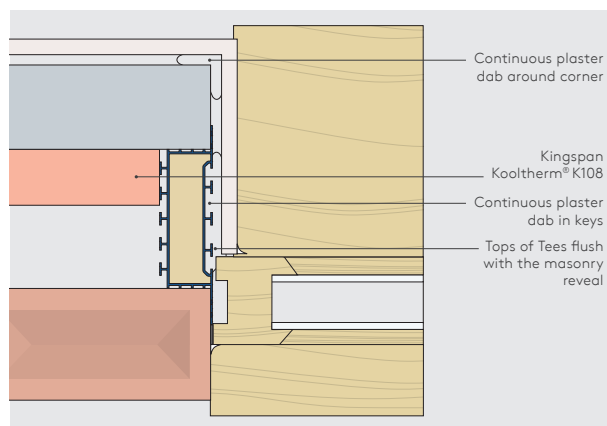

Figure 22: Plaster dabs at jamb detail
- Plaster, screed and dabs for dry-lining should be applied directly to the tees on the Kingspan Thermabate® casing, as the tees form the key. The tops of tees should be flush with the masonry reveal (Figure 22).